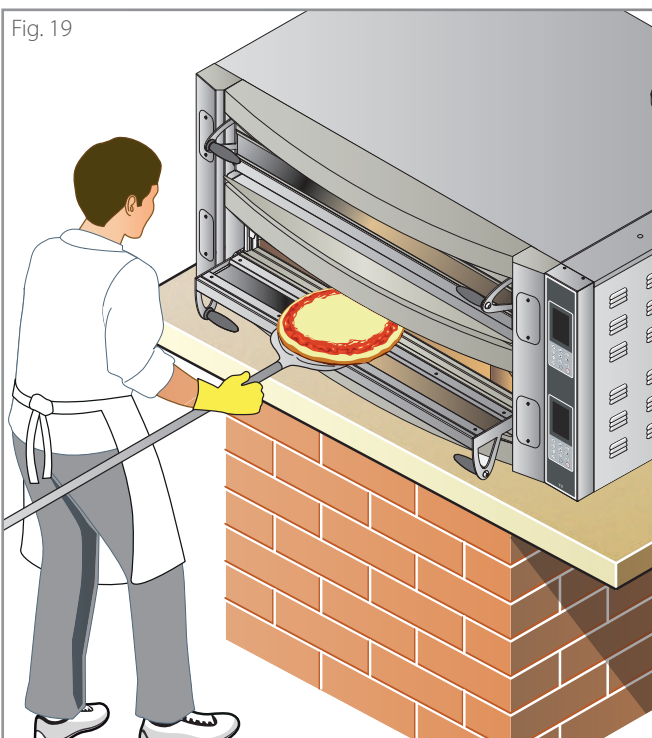

Fig. 19
► Fig. 19
- (A) Touch the "Service" icon (with the oven in stand-by),
- (B) touch the "Program management" icon,
- (C) touch the name of a program,
- (D) Set:
- (D4) if you wish, you can enable a buzzer that will go off when the set time expires, warning that cooking is complete (see ► Fig. 19).
- (E)...(H) touch "Program 01"; an alphanumeric keypad will be displayed on which you can enter the **name of the recipe** (e.g. NEAPOLITAN); confirm with "OK",
- (I) confirm with "OK".